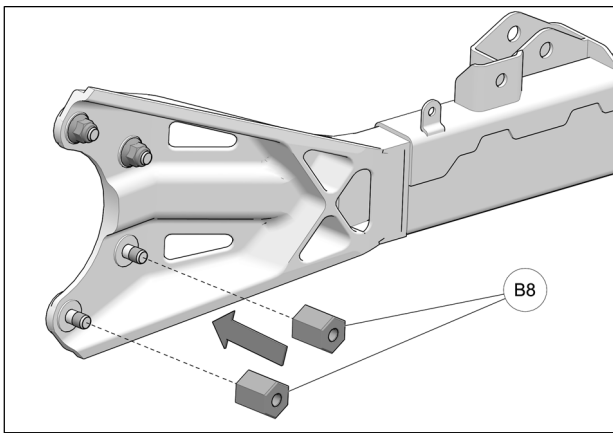

Fig. 6
6. Thread hexagonal spacers (**B8**) on trailing arm bolts. Torque hex spacers to 50 N•m [37 lb•ft]. See Fig. 6